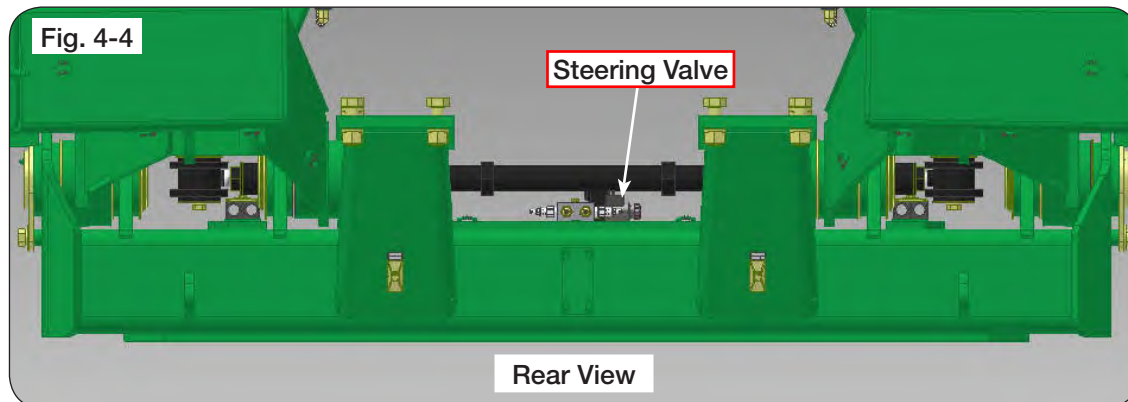

Fig. 4-4
4. Check harness connection on the steering valve located on the cross axle, make sure there is 12-Volts to the solenoid on the valve attached to the cross axle. (Fig. 4-4)